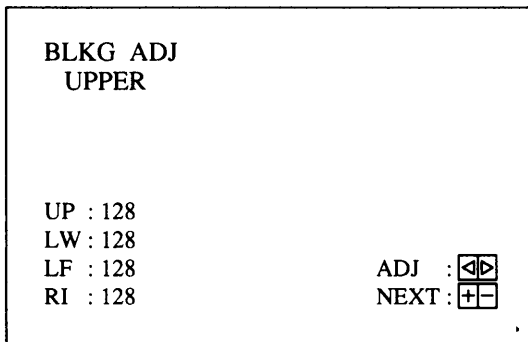

Figure 14
3. Press the BLKG key to enter the upper blanking adjustment mode. Confirm that the display shown in Figure 14 appears.